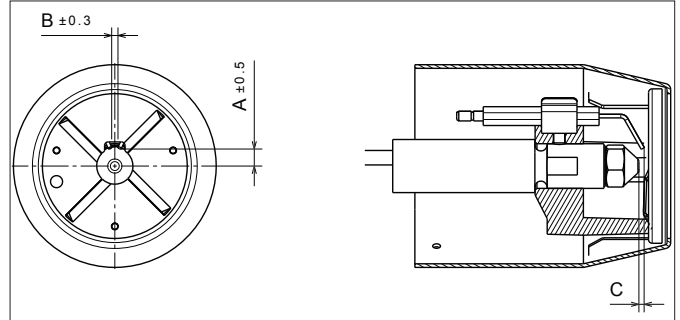

Figure 10-6: Ignition electrode settings
9. Check/adjust electrode setting. Refer to Figure 10-6.